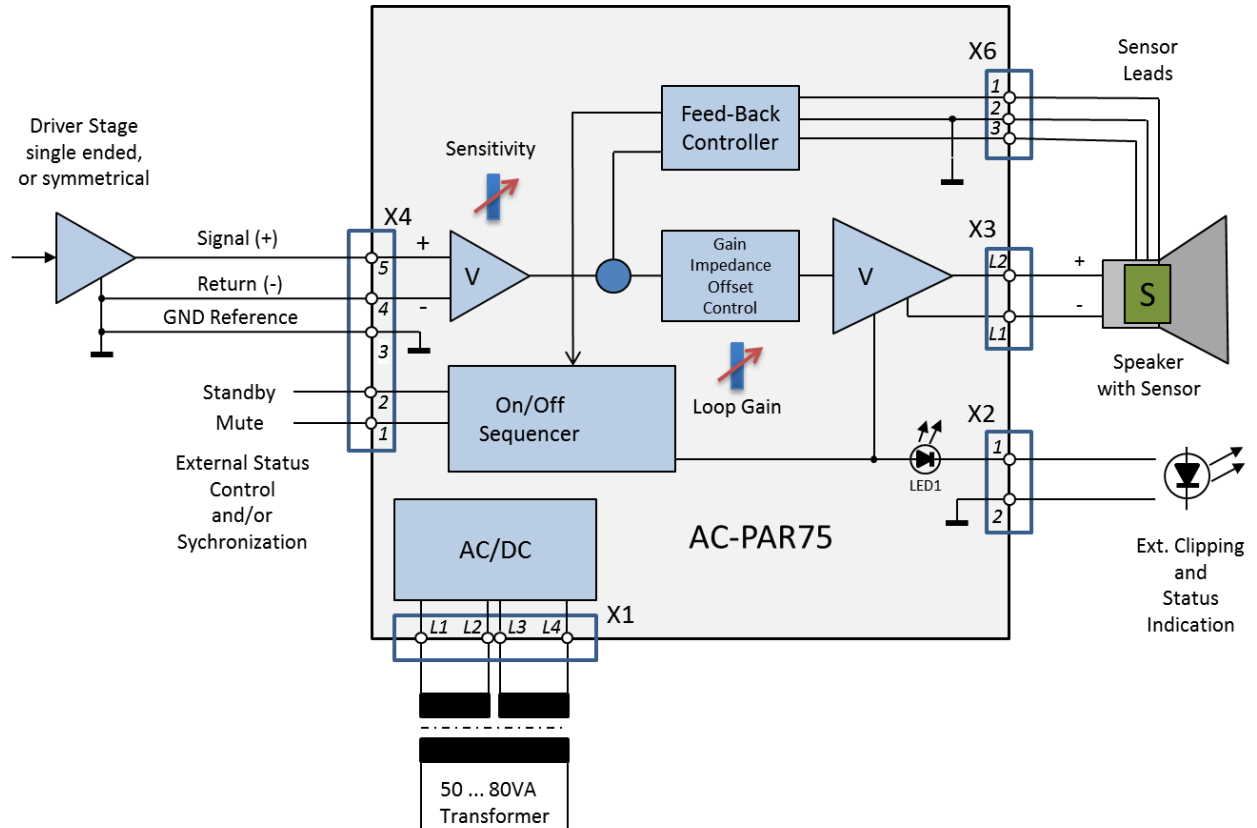

Figure 17: Typical Implementation of the Module AC-PAR75
Ensure a common GND reference of the driving amplifier and the PA by an appropriate connection between these two Grounds. X4-3 is connected to the PA GND and must be used for this purpose (see also Figure 17). See application note AC-AN-001 for more details to proper grounding implementation in various systems.
Figure 17 shows the typical implementation of the AC-PAR75
3. Connect the secondary windings of the transformer (Figure 17)